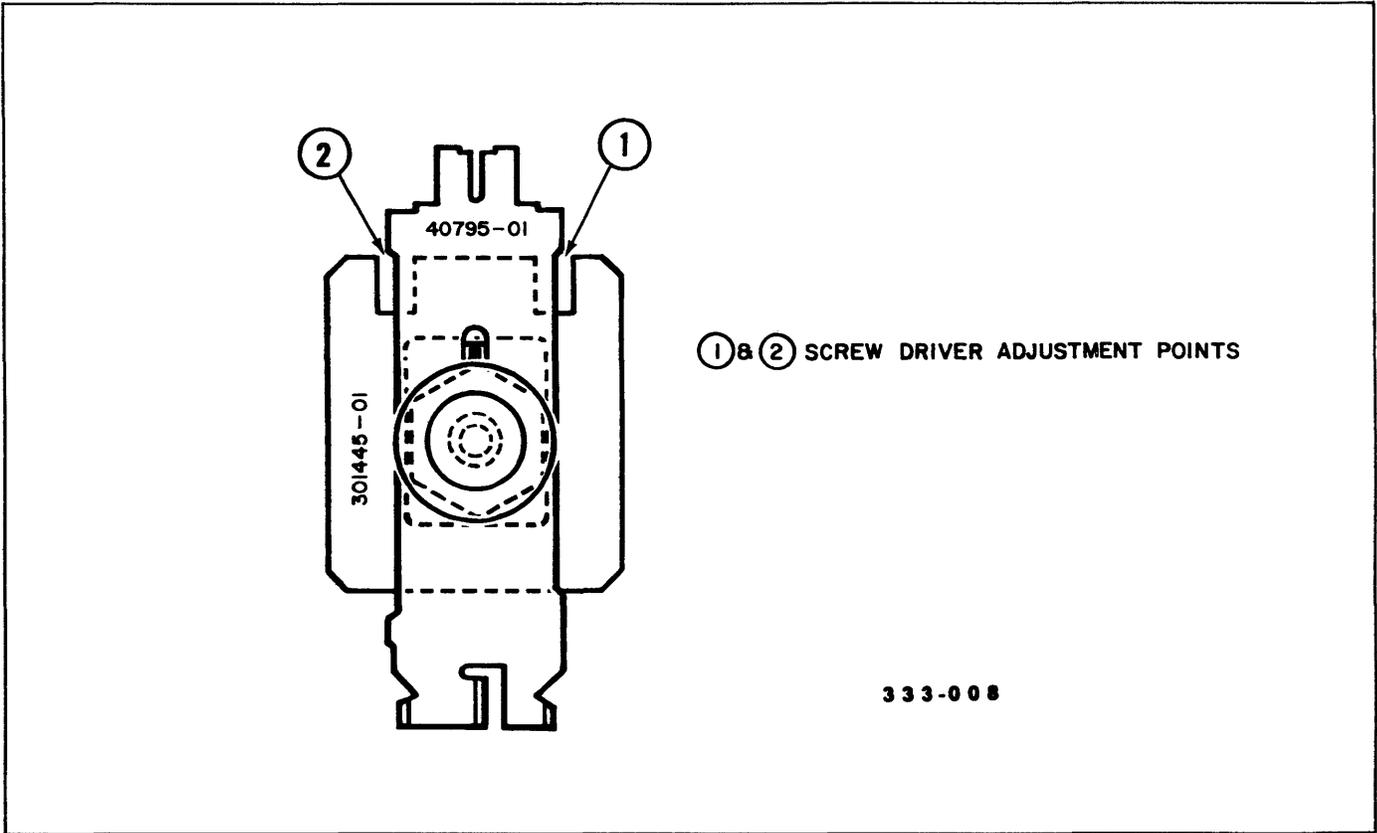

Figure 3-24b. Printwheel Alignment
- (3) Rotate the alignment tool to bring its hammer slot in front of the print hammer. Block the home sensor by inserting a piece of dark paper into its slot to detent the printwheel motor.
- (4) Manually push the print hammer toward the platen until its face enters the alignment tool's hammer slot. If the hammer slides easily into the slot without contacting the sides, printwheel-to-hammer alignment is correct. If the hammer contacts either side of the slot, or the hammer will not enter the slot, continue with this procedure.
- (5) Refer to Figure 3-24b. Place a screwdriver blade at point 1 or 2. By twisting the screwdriver you will be moving the alignment tab in relation to the printwheel hub. Move the adjustment tool as necessary to achieve proper alignment.